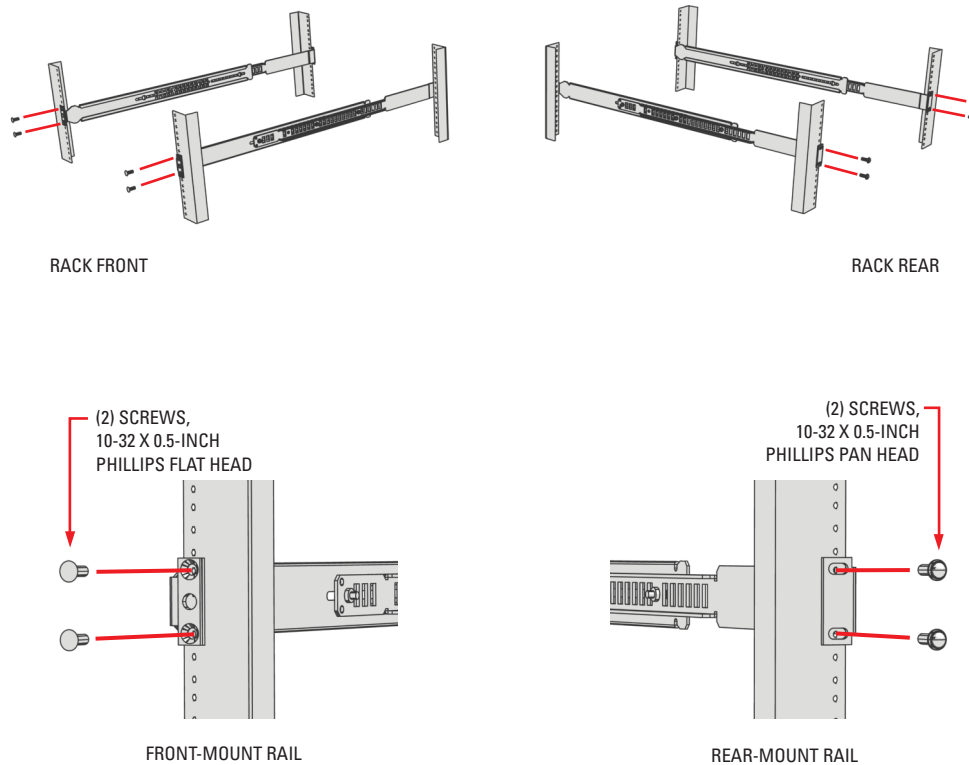

Figure 10. Attaching Support Rails
6. Attach one support rail assembly to the equipment rack in the desired location (refer to Figure 10):